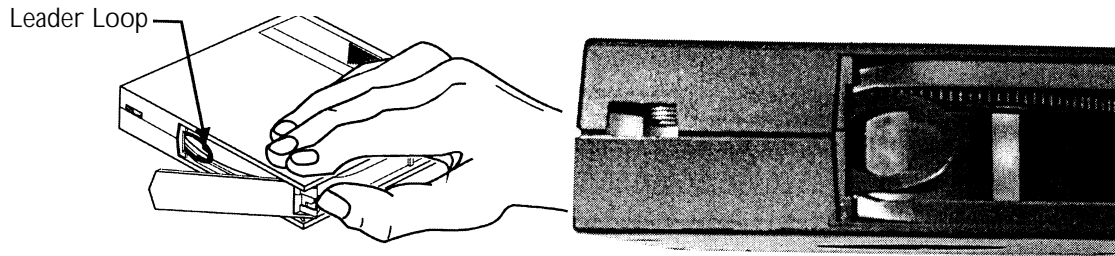

Figure 3 Opening the Door on a DLTtape Cartridge Showing Tape Leader Loop in its Correct Position
6. Ensure that the tape leader within the tape cartridge is in the correct position. To do this, you must open the tape cartridge door. Refer to Figure 3.
Open the door by holding the DLTtape cartridge as shown in Figure 3.
On the right side corner of the tape cartridge there is a small tab in a cut-out portion of the cartridge. Using your thumb, gently lift up on the tab and swing the door open (Figure 3).